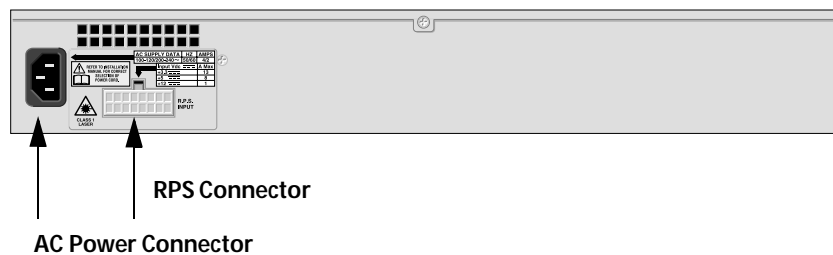

Figure 4 Switch Rear Panel
4. If you purchased a redundant power supply (RPS) unit for the switch, connect the RPS unit to the R.P.S. Input connector (Figure 4) on the rear of the switch by following the directions included with the RPS system.
5. Apply AC power to the switch by plugging the power cord into the AC power connector on the back panel of the unit (shown in Figure 4) and plugging the other end into a wall outlet.
7. If you purchased a redundant power supply (RPS) unit for the switch, connect the RPS unit to the R.P.S. Input connector (Figure 4) on the rear of the switch by following the directions included with the RPS stem.
8. Apply AC power to the switch by plugging the power cord into the AC power connector on the back panel of the unit (shown in Figure 4) and plugging the other end into a power outlet.